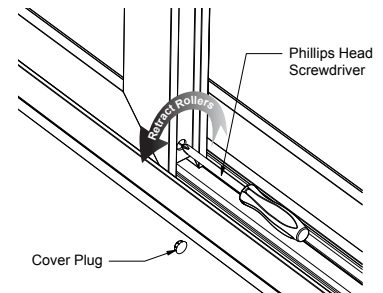

Figure 3 — Retract Rollers
2. Retract the rollers completely. The adjustment screws can be accessed by removing the small cover plug at the lower edge of each side of the active panel. Keep the cover plugs to reinstall later. Insert a Phillips head screwdriver into the hole until the adjustment screw is engaged. Turn the screw counter-clockwise to retract the rollers (**Figure 3**). **Caution: Do Not use a screw gun or drill as damage may occur!**